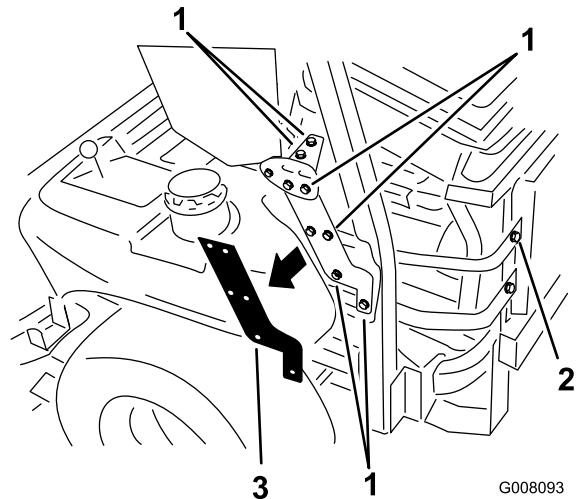

Figure 6
2. Remove the nuts and bolts holding the hood support bracket. Save the nuts and bolts (Figure 6).
3. Remove the bolt for the top engine guard strap from the machine (Figure 6).